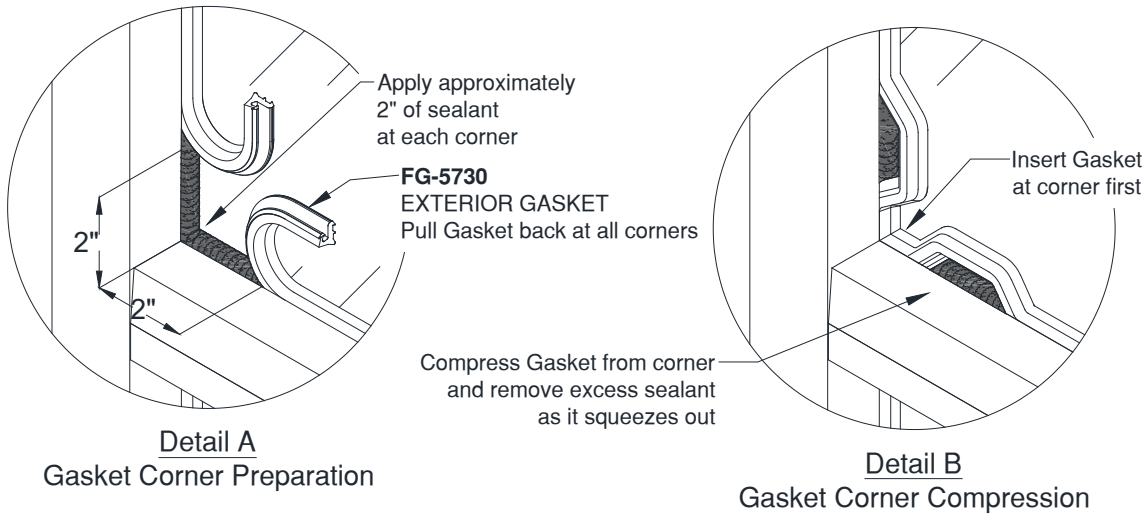

Figure 33: Exterior Gasket at Corners
- 17.2.7 After Gaskets are pressed into place, pull gasket from pocket at corners as shown in Figure 33 Detail A. Clean glass and gaskets a minimum of 2" from each end with isopropyl alcohol.
17.2.8 Apply sealant and push Gasket into reglet, compressing from the corner first, Figure 33, Detail B. Clean squeeze out immediately.